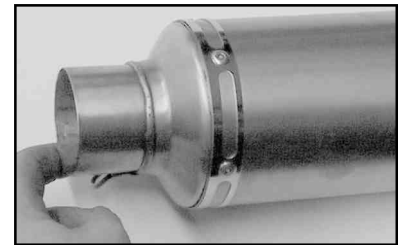

Figure 10
8. Apply a thin film of sealant to the inside and outside of the muffler. **Figure 10.**